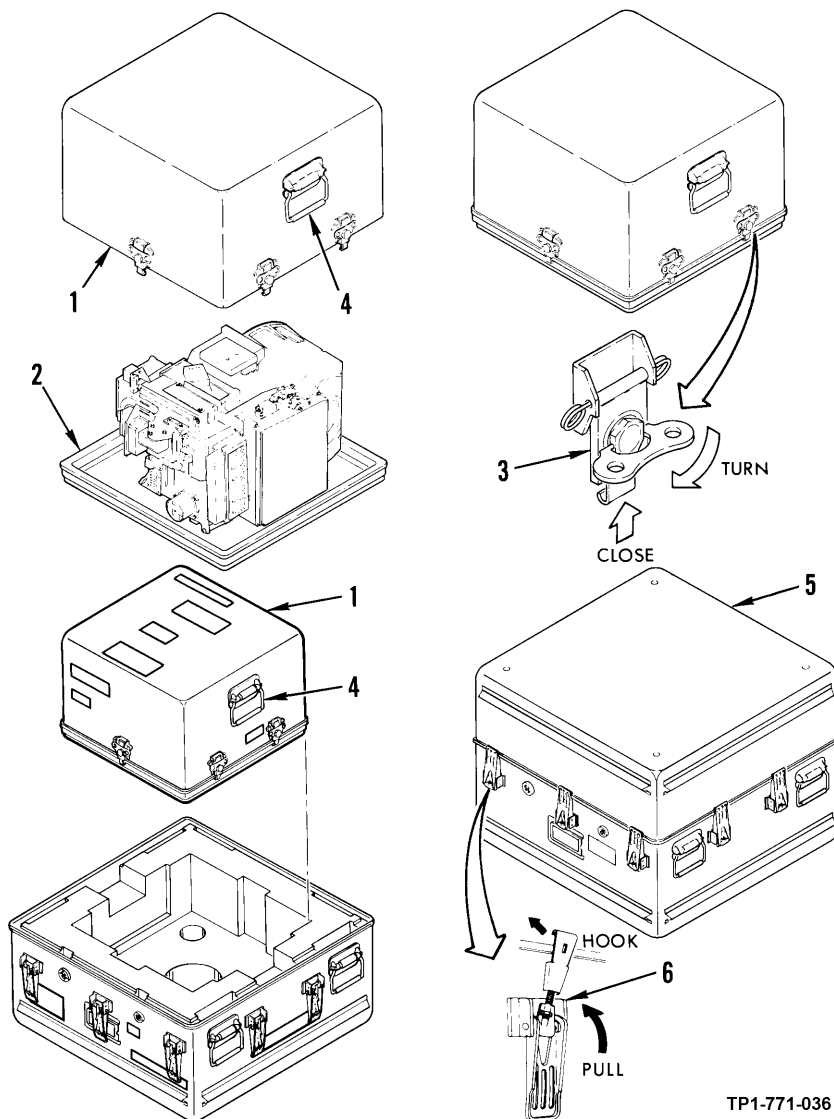

Figure 2-28. Inner Case Installation in Shipping and Storage Container
(1) Install case assembly (1, figure 2-28) on base assembly (2).
(2) Engage and lock latches (3).
i. Grasp handles (4) of case assembly and place in shipping and storage container (5).
j. Install container cover and close latches (6).